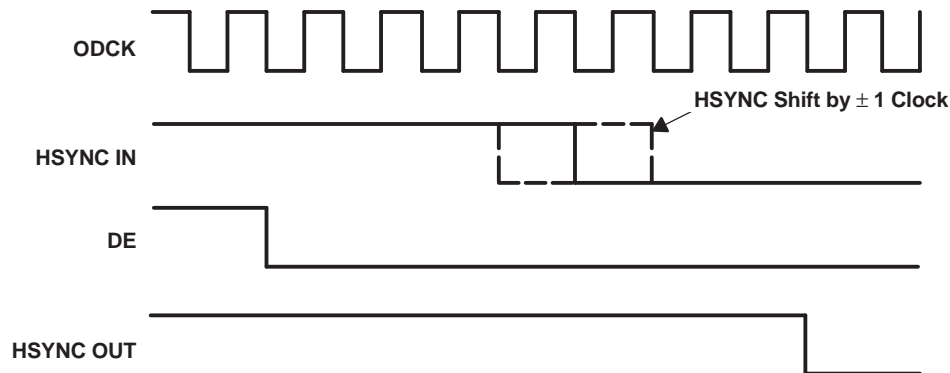

Figure 16. HSYNC Regeneration Timing Diagram
The TFP401A-Q1 integrates HSYNC regeneration circuitry that provides a seamless interface to these noncompliant transmitters. The regeneration circuitry always fixes the position of the data enable (DE) signal in relation to data, irrespective of the location of HSYNC. The TFP401A-Q1 receiver uses the DE and clock signals to recreate stable vertical and horizontal sync signals. The circuit filters the HSYNC output of the receiver and shifts HSYNC to the nearest eighth bit boundary, producing a stable output with respect to the data, as shown in Figure 16. This ensures accurate data synchronization at the input of the display timing controller.